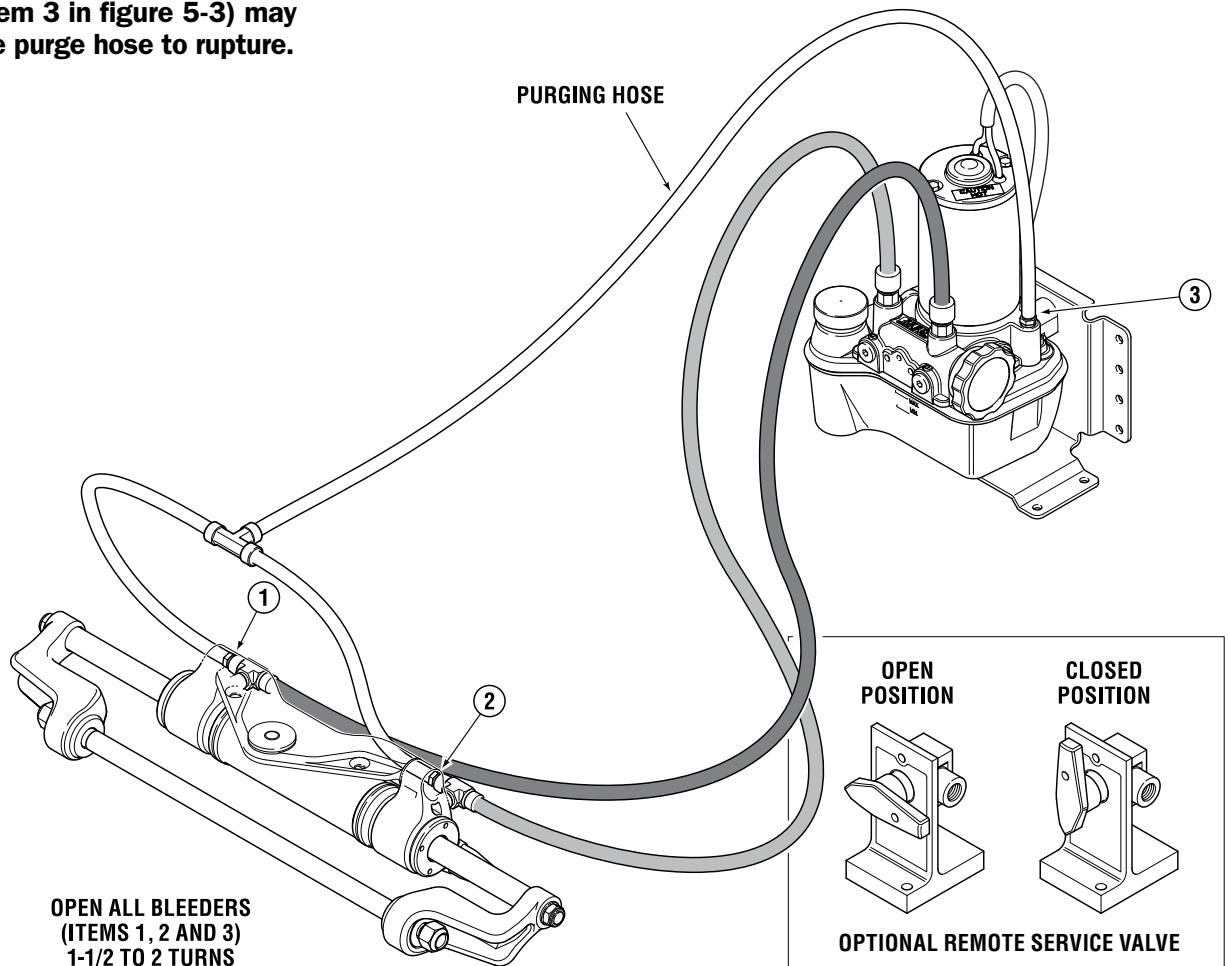

Figure 5-3.
2. Connect the purge hose as shown in figure 5-3. An outboard system is illustrated, but the purge hose connections are the same for inboard and sterndrive systems.
Failure to open the pump bleed fitting (item 3 in figure 5-3) may cause the purge hose to rupture.